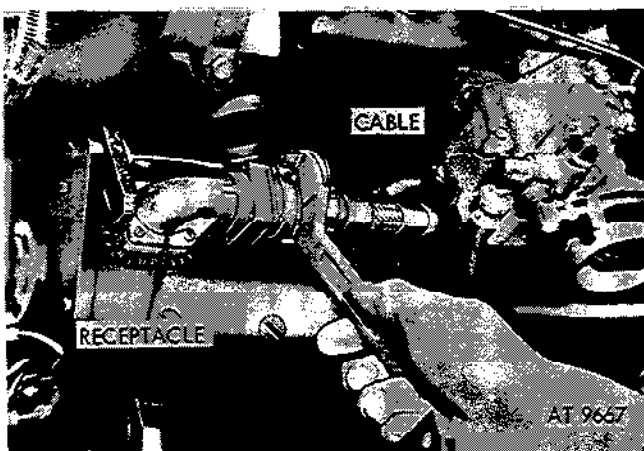

Figure 2-172. Disconnect regulator cable at generator receptacle.
a. *Removal.* Procedures (1) through (6) below give operations for removing generator assembly and for removing pulley from generator.
(1) Remove air cleaner (para. 2-44). Loosen generator and remove drive belts (para. 2-64).
(2) Using spanner wrench, disconnect generator-to-generator regulator cable at generator receptacle (fig. 2-172).